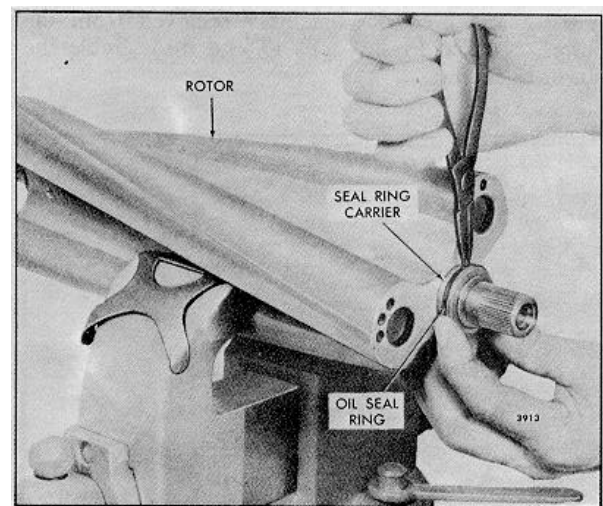

FIG. 11 - Removing Oil Seal Ring from Carrier (Turbocharged Engine Blowers)
equipped with soft jaws (Fig. 11). Tighten the vise just enough to hold the rotor stationary.
- b. Remove the oil seal ring from the seal ring carrier on each blower rotor shaft with a pair of snap ring pliers as shown in Fig. 11.
- e. Install an oil seal ring in the ring groove of each carrier with a pair of snap ring pliers in the same manner as shown in Fig. 11.